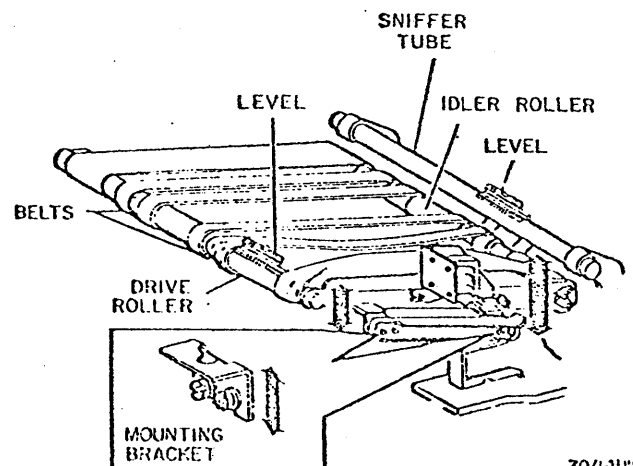

Fig. 3-52. A Transport Parallelism
3. Set the level on the sniffer tube to obtain a reference reading (Fig. 3-52).